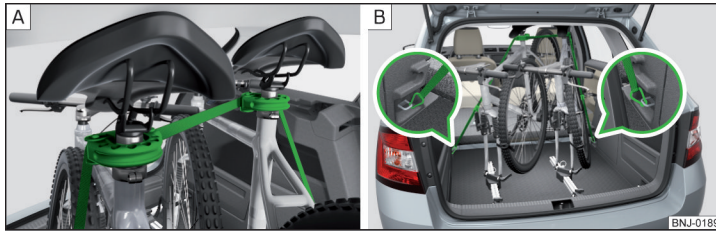

Fig. 122 Ensure the stability of the bicycles with a belt
- ▶ When transporting two bicycles, stretch the belt » Fig. 122 - **[A]** between the saddles by moving the bicycles apart.
- ▶ Hook the carabiners on the ends of the belt into the lower lashing eyelets behind the rear seats » Fig. 122 - **[B]**.